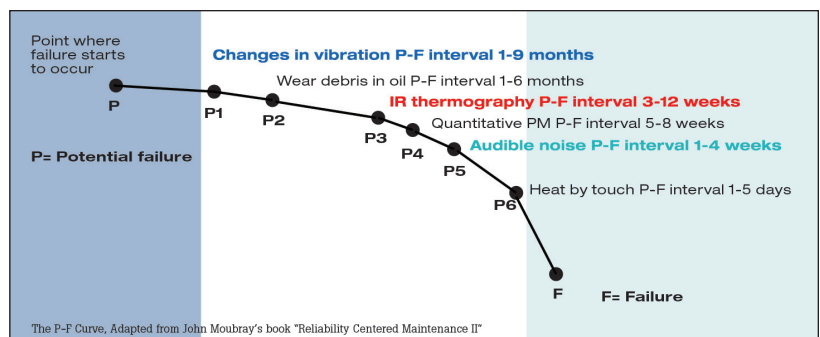

Figure 2. Potential failure curve over a nine month interval.
**Predictability.** Studies have shown (Figure 2) that vibration analysis can provide early warnings of impending machine failure, giving maintenance staff time to schedule required repairs and acquire needed parts.